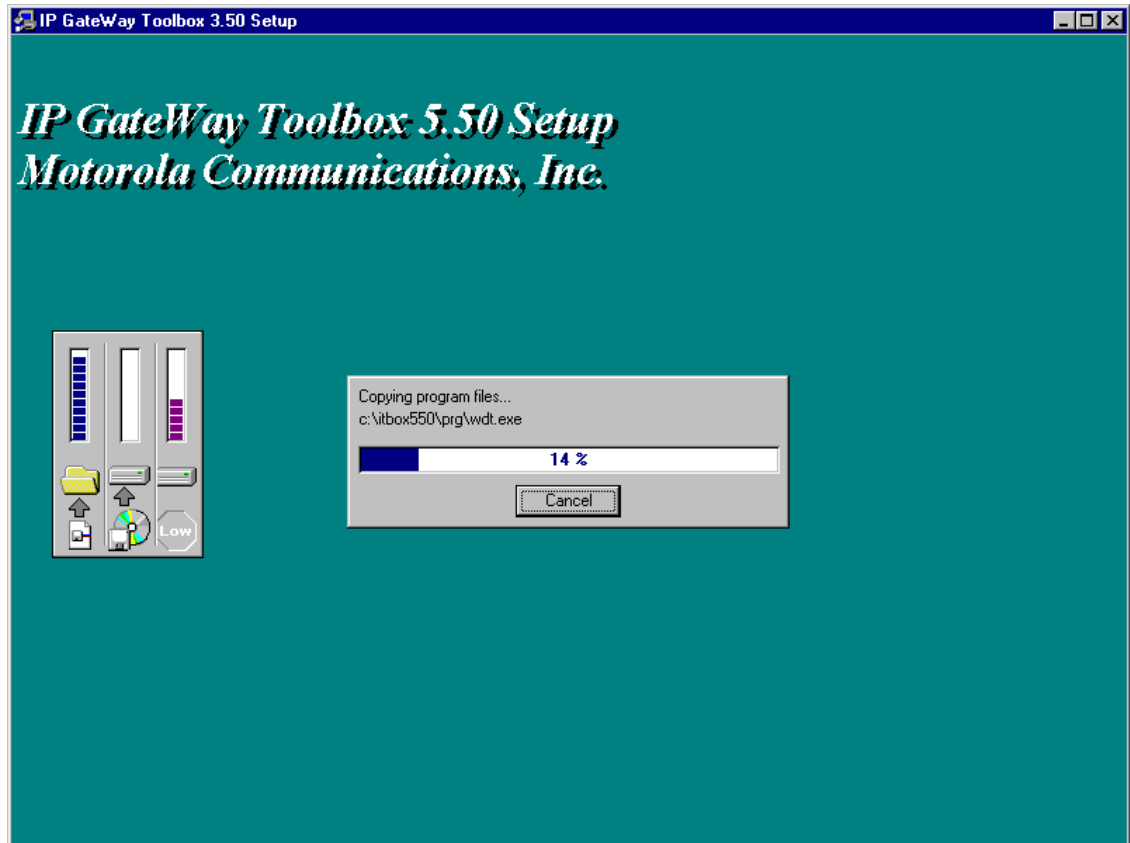

Figure 4-9: File Transfer Progress screen
9. While the Setup program copies the IP Gateway Toolbox software files, a program indicator displays the progress of the file transfer progress (see Figure 4-9).